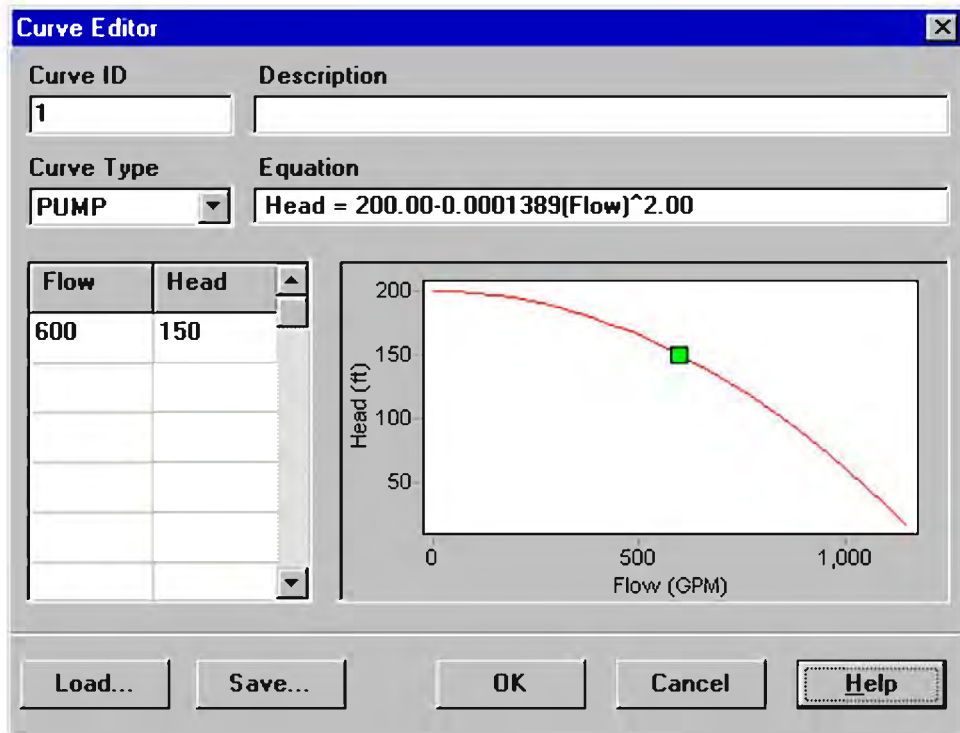

Figure 2.6 Curve Editor
Next we will create Pump Curve 1. From the Data page of the Browser window, select Curves from the dropdown list box and then click the Add button . A new Curve 1 will be added to the database and the Curve Editor dialog form will appear (see Figure 2.6). Enter the pump's design flow (600) and head (150) into this form. EPANET automatically creates a complete pump curve from this single point. The curve's equation is shown along with its shape. Click **OK** to close the Editor.